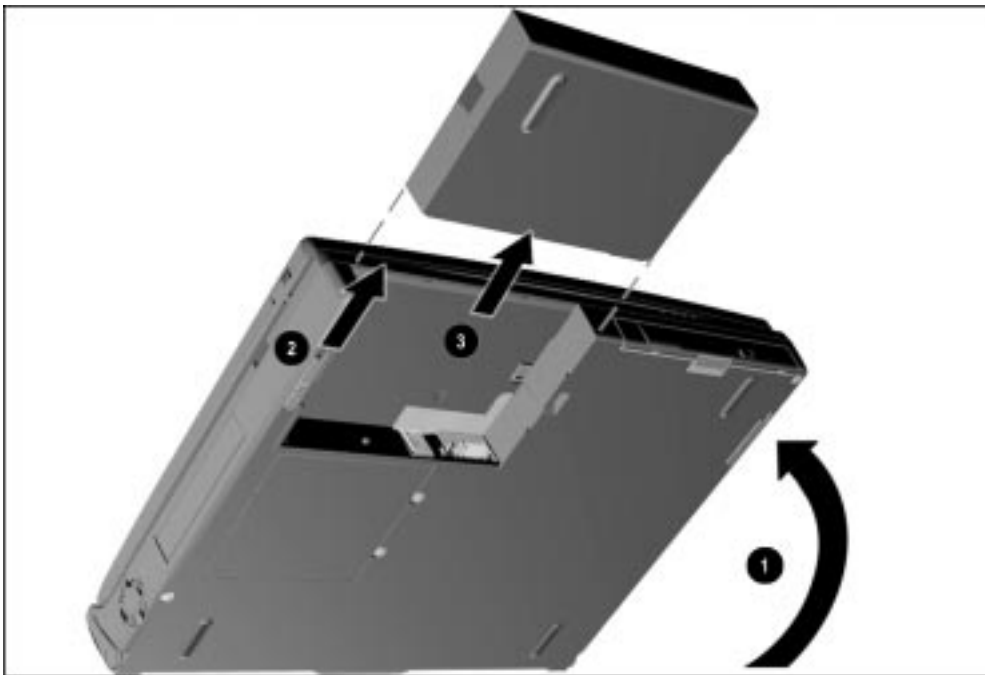

Figure 5-8. Removing a Battery Pack
2. Tilt the computer at an angle ❶ so the bottom of the computer is accessible (Figure 5-8).
3. Slide the battery release latch forward ❷.
4. Pull the battery pack out of the battery bay ❸.